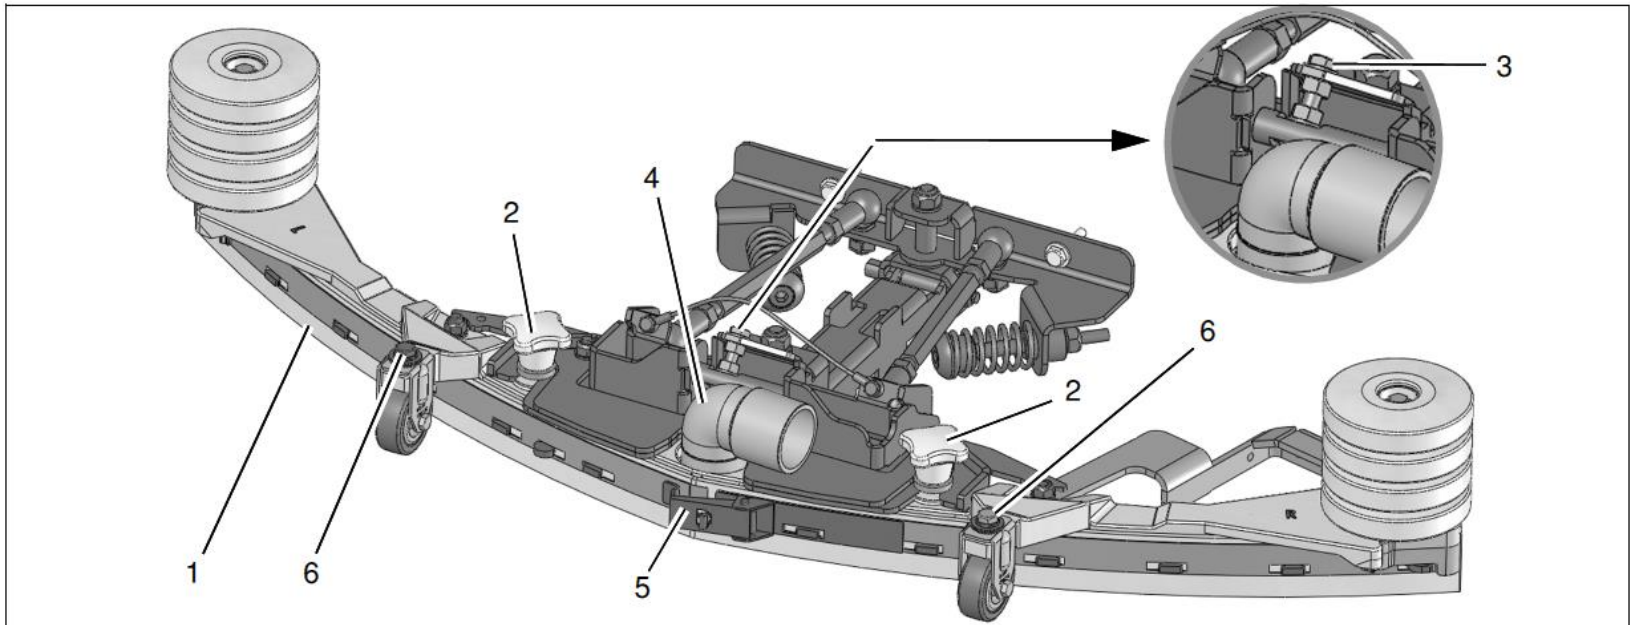
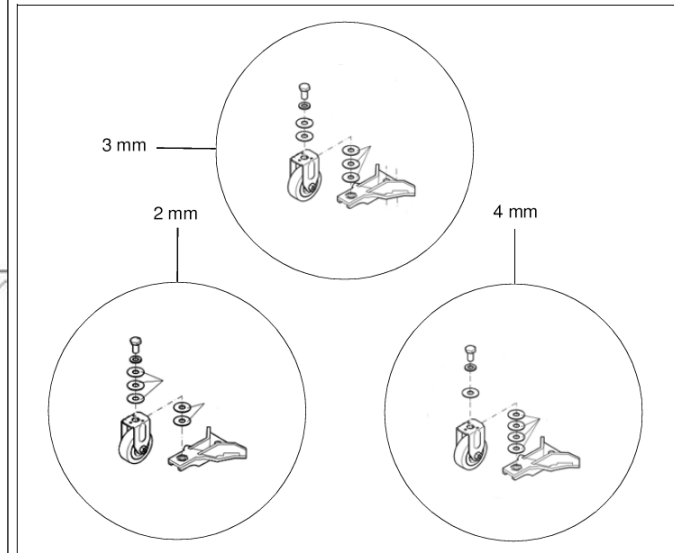

Fig. 7.1
Fig. 7.3
2. Loosen the conternut on the screw (Fig. 7.1/3) and use the conternut to adjust the squeegee so that the ends of the sealing strips just make contact with the floor.
The height adjustment is set to 3 mm at the factory. If, despite an optimum angle adjustment, streaks are produced, the distance between the rollers and floor must be adjusted by altering the number of washers (Fig. 7.1/6 / Fig. 7.3) on the holder. In the case of very smooth floors, e.g. coated screed, PVC, linoleum etc., the number of washers = 2.